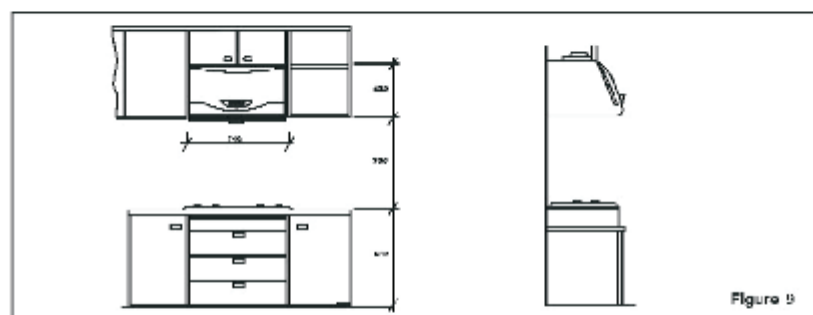

Figure 9
(1) According to the requests shown in figure9 bore a 40-50mm deep hole in the wall above the stove with $\phi 8$ mm drill bit, keep the organism level. The distance between the bottom of the organism and the stove is 700-750mm.